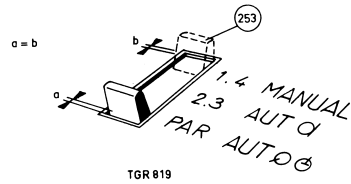

Fig. 5
### Adjusting the air gap of the recording/play-back head, Fig. 5
### Adjusting the track selector, item 253, Fig. 5